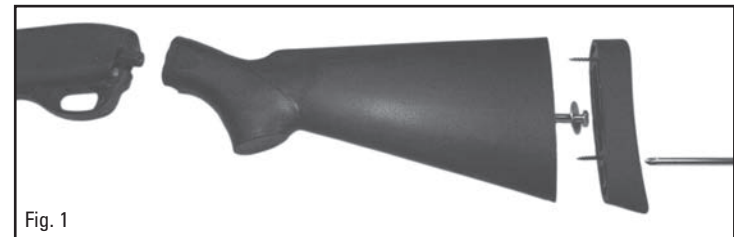

Fig. 1
1. Remove original stock. Refer to manufacturer's instructions for the best method to remove stock. Normally the pad is held in place by two Phillips screws and the stock is held on by one bolt. Remove the pad by unscrewing the Phillips screws and remove the stock bolt to free the stock from the shotgun. (Fig. 1) Remington owners: Remove any metal spacers from the back of the receiver.